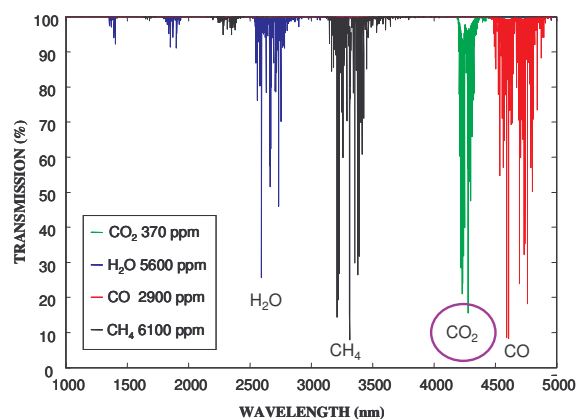

Figure 1. IR absorption of some gases.
CO2 absorbs light in the infrared (IR) region, see Figure 1. This absorption can be utilized to measure volumetric concentration of CO2. Vaisala CARBOCAP® is utilizing this absorption in the silicon-based non-dispersive infrared CO2 sensors.